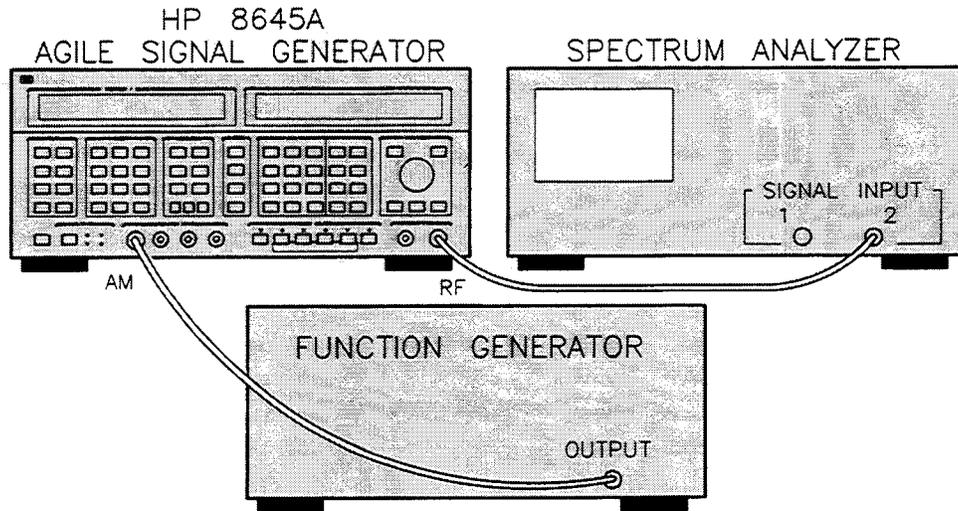

Figure 2-8. Equipment Setup for Simultaneous FM and AM Procedure.
1. Connect the HP 8645A to the Spectrum Analyzer and Function Generator as shown in figure 2-8. Turn on the equipment and make the following adjustments: